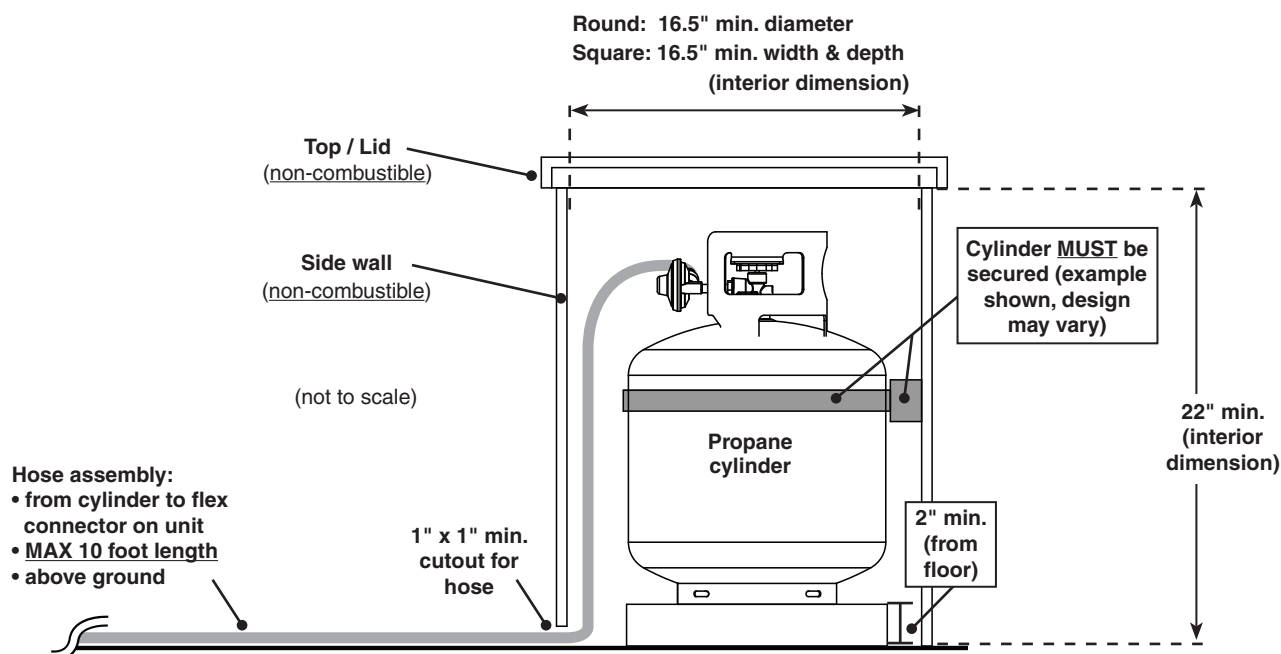

Fig. 15-1 Propane cylinder enclosure specifications (side view)
The cylinder enclosure can be constructed according to your individual preference, while following all guidelines found in this manual. **The enclosure MUST (see Fig. 15-1):**
- have minimum dimensions as illustrated in Fig. 15-1